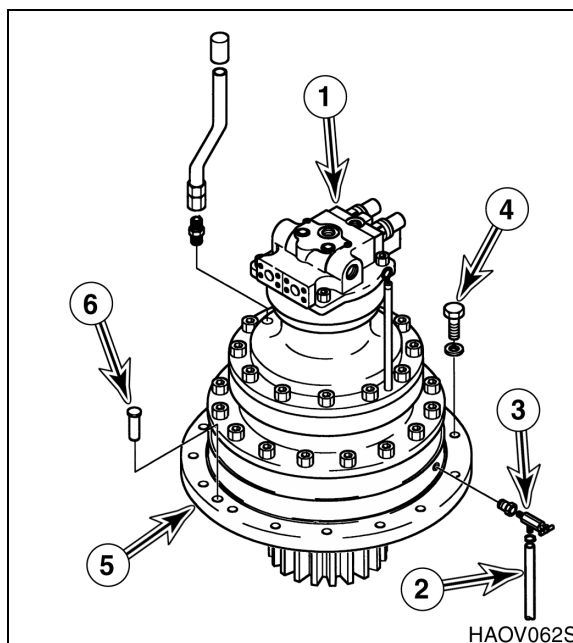

Figure 3
7. Tag and disconnect hoses from swing motor (1, Figure 3). Plug and cap hoses and port to prevent contamination from entering hydraulic system or component.
8. Disconnect tube (2) from drain cock (3)
9. Remove fourteen bolts and washers (4, Figure 3) holding swing reduction gearbox (5) to frame.
10. Using a suitable lifting device, sling swing motor (1, Figure 3) and remove swing motor and reduction gearbox (5) as an assembly from unit.
**NOTE:** A drain cock (3, Figure 3) and tube are located on side of gearbox. Be careful not to damage valve or tube.
**NOTE:** There are two alignment pins (6, Figure 3), one located on each side of reduction gearbox flange.